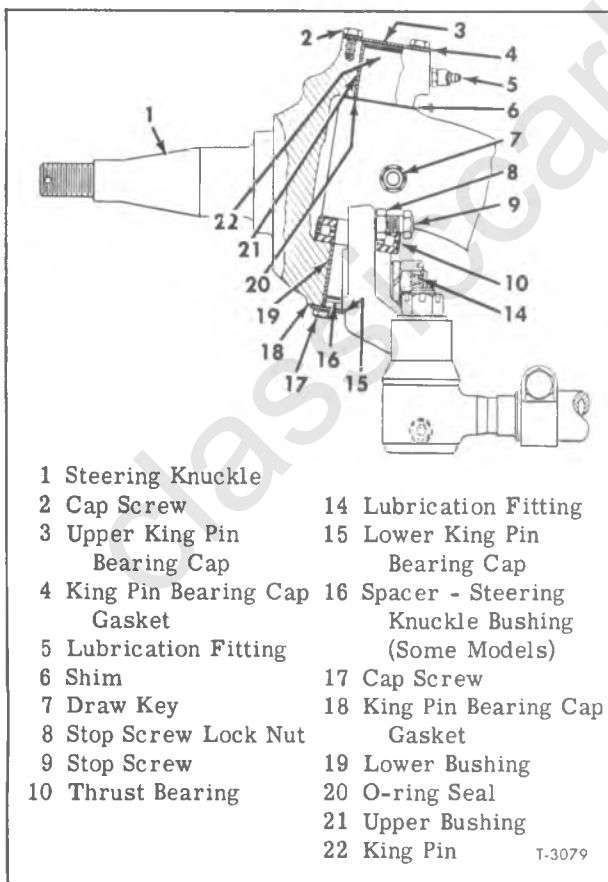

Figure 2—Typical Steering Knuckle Construction
1. Place assembly on dolly and roll into position under vehicle. Raise axle up against springs, making sure spring center bolts enter alignment holes in spring seats. Be sure caster axle shims, if used, are in place between spring and axle with thick edge of caster spacer facing proper direction as indicated in figures 2 and 3 of "FRONT SPRINGS" (SEC. 3C) of this manual. Attach axle to springs, tightening the U-bolts as described in "FRONT SPRINGS" (SEC. 3C) of this manual.
The king pin is held in place with a tapered draw key, installed as shown in figure 2. The draw key is retained in place by a lock washer and nut.
Upper and lower ends of knuckles are sealed with king pin bearing caps and gaskets and an O-ring seal at the bottom of upper bushings, to prevent lubricant leakage and to exclude dirt and moisture. Some models are equipped with steering knuckle bushing spacer (fig. 2). The vertical thrust loads are carried by thrust bearing or thrust washer installed between lower face of axle center and steering knuckle lower yoke.